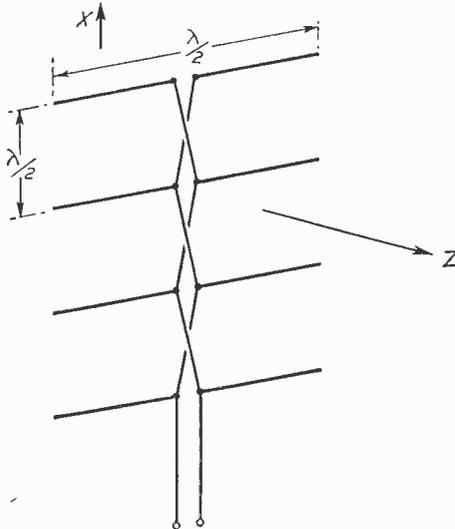
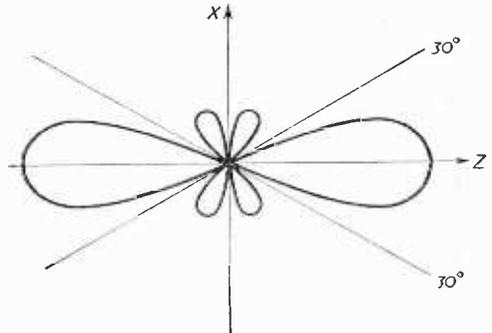

Fig. 1.—4-element stack of half-wave dipoles. In-phase feeding is achieved by crossing the feeders between elements.
Fig. 2.—Polar diagram of a system of four half-wave dipoles. Highest sensitivity in direction Z, zero sensitivity in directions 30 deg. and 90 deg. (X).
For use in radio astronomy, however, aeriels of considerably higher gain and directivity must be used. This can easily be achieved by using an array of several half-wave aeriels and feeding them in phase (Fig. 1). Highest sensitivity is in the direction Z. The polar diagram of this four-element system is shown in Fig. 2. Sensitivity is zero at an angle of 30 degrees from the direction of the highest sensitivity (Z), and by increasing the angle a smaller maximum of sensitivity is found. These "side lobes" are present with all multi-element arrays.